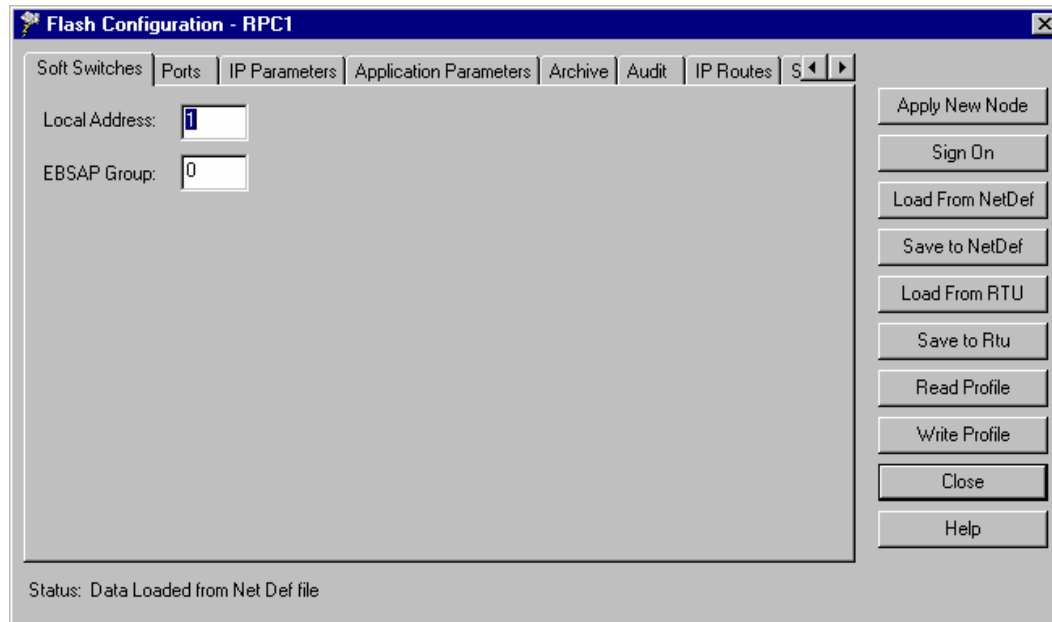

Figure 3-1 - FLASH Configuration Utility Menu
- a. Plug a cable from your PC/laptop into a configured serial port on-the CCRS panel and establish communications with the on-line CPU using either NetView or LocalView. Start the Flash Configuration Utility (see Figure 3-1).